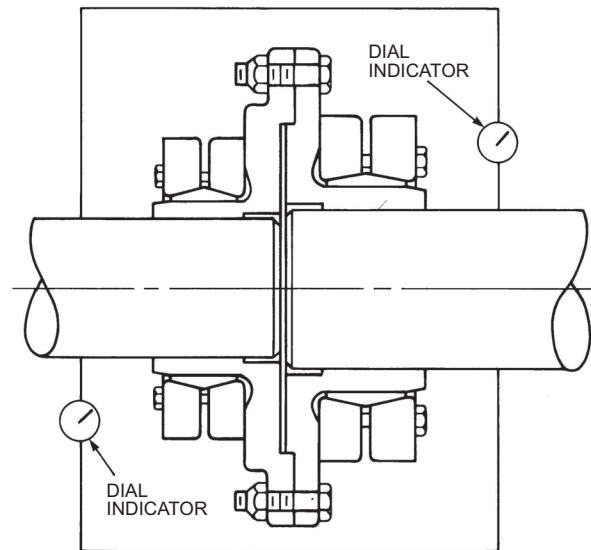

Figure 7 REVERSE DIAL INDICATOR METHOD
10. Using dial indicators per Figure 7, measure assembly runout on driving and driven shafts. Runout values should be within .005" TIR (total indicator reading) to minimize drive movement.